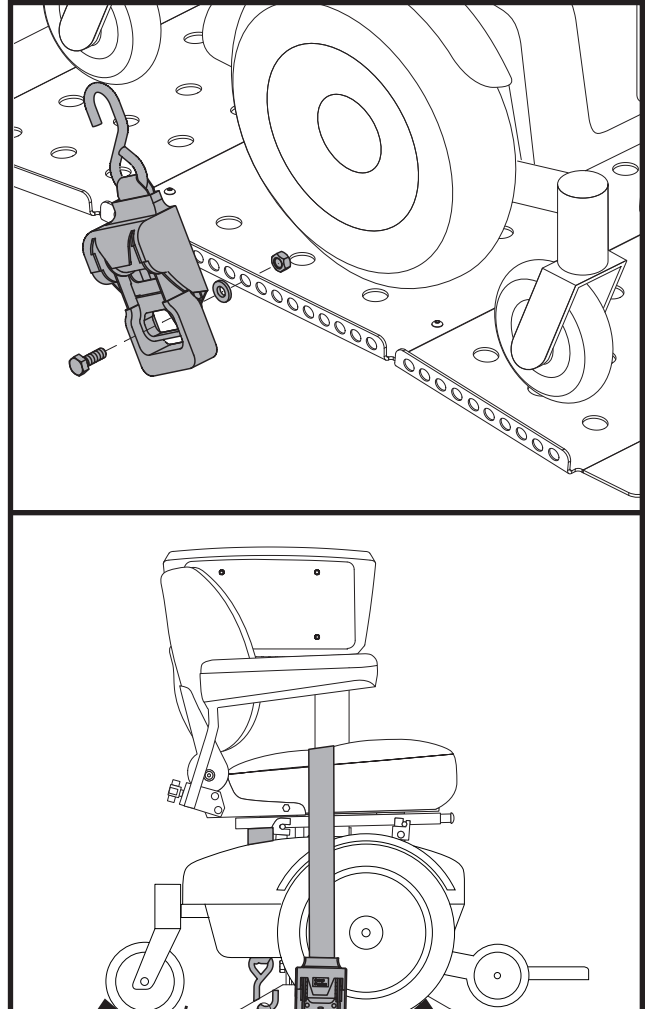

Figure 7. Retractable Tie-down Strap Installation
2. Align the meeting position on strap to the desired mounting point hole on the full platform. **See figure 7.**
3. Install the hardware. **See figure 7.**